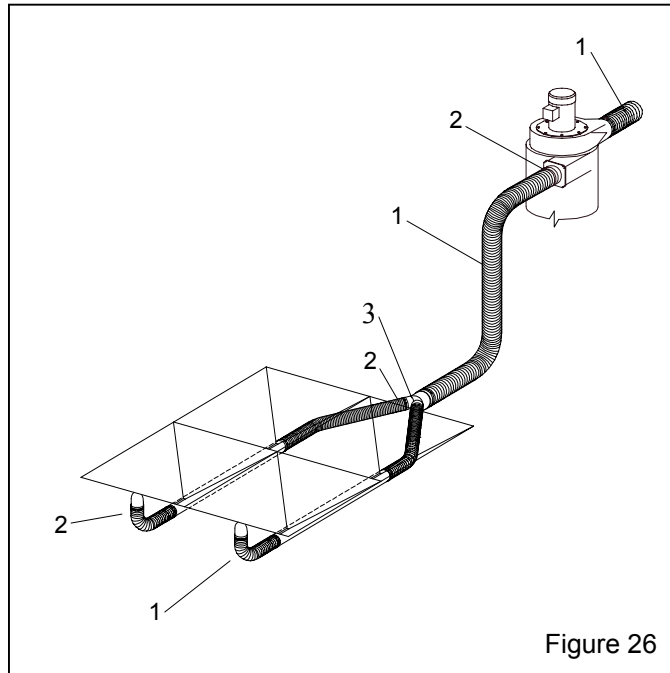

Figure 26
9.10 Flex Hose & Wye Adaptor, Figure 26